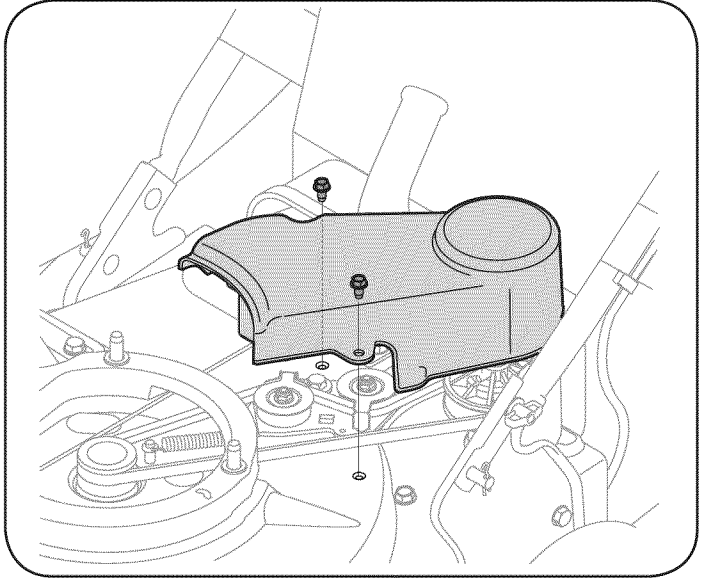

Figure 20
4. Remove the three self tapping screws securing the belt cover, and remove belt cover. See Figure 20.